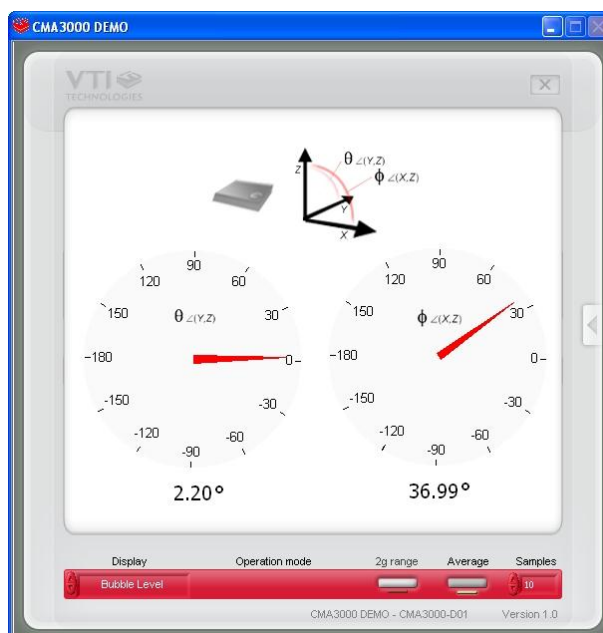

Figure 7. Bubble level display.
**BUBBLE LEVEL**, two displays that show tilt angle, see Figure 7. Angle calculation is performed in GUI, not in CMA3000 sensor.